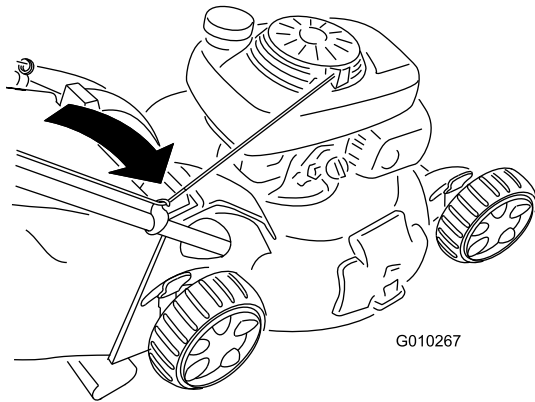

Figure 25
2. Route the starter rope around the lower-rope guide (Figure 25).